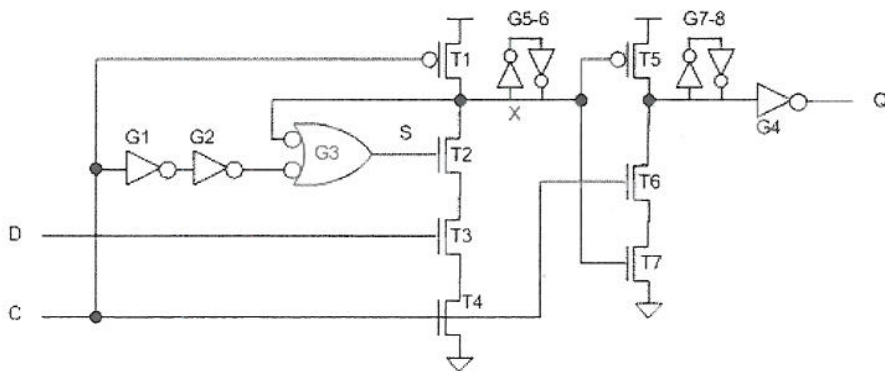

Figure 3.1
3. *Figure 3.1* shows the circuit of a semi-dynamic D flip-flop.
d) Design the layout of the circuit shown in *Figure 3.1* in the form of a symbolic layout or a stick diagram. [6 marks]
The latches are clocked by the signals indicated in *Figure 3.1*, and all have inverting outputs. The bit compare logic module BCL together with the latch L1 implements the logic function: